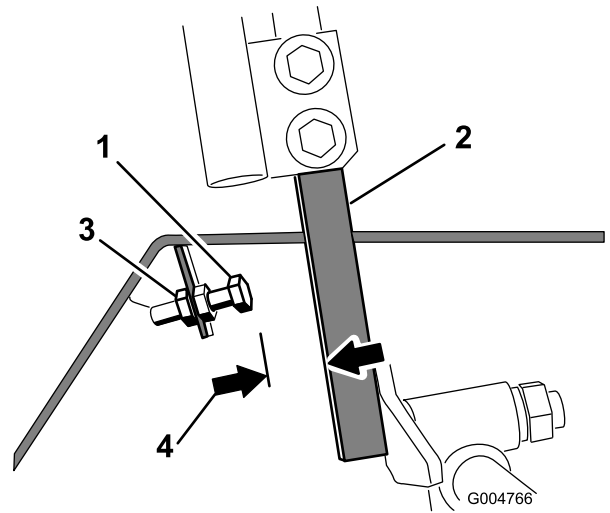

Figure 76
4. Loosen the jam nut on the stop bolt for a control lever (Figure 76).